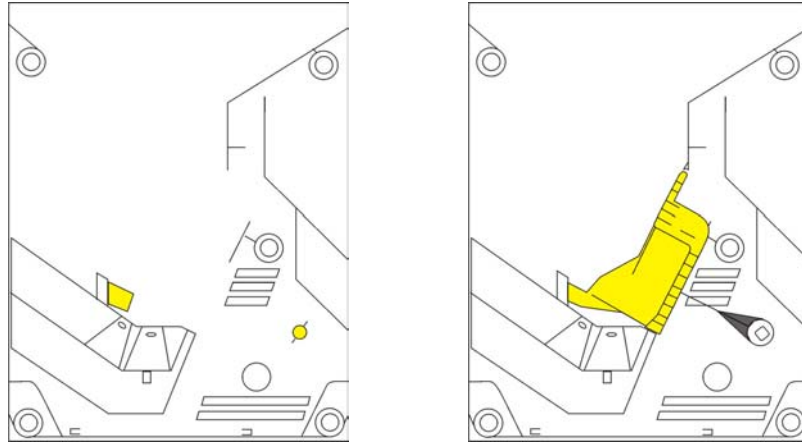

Figure 19: Stirrer position
1. Firstly, locate the 'Stirrer' in the 'Coin Box' as shown in Figure 19.